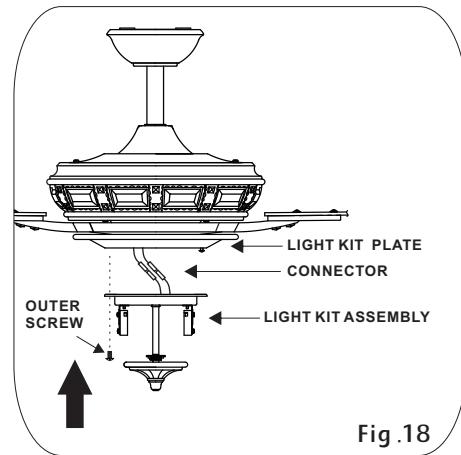

Fig.18
Step1. Remove one of the three outer screws and loosen the other 2 from the light kit plate.(Do not remove.)(Fig. 18)
Step2. Connect WHITE(BLUE) wire from light kit plate to WHITE(BLACK) wire from light kit assembly with the connector.(Fig.18)
A **DOWNWARD** airflow creates a cooling effect as shown in Figure18.This allows you to set your air conditioner on a warmer setting without affecting your comfort.